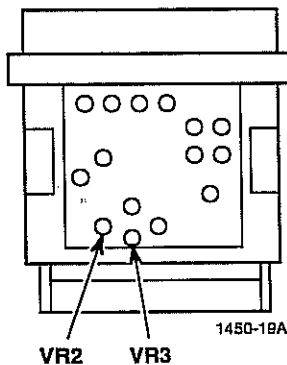

Figure 3-14.
- b. Adjust VR2 (Figure 3-14) for $0.10 \text{ VDC} \pm 0.05 \text{ VDC}$.
- b. Adjust VR3 (Figure 3-14) for $0.10 \text{ VDC} \pm 0.05 \text{ VDC}$.